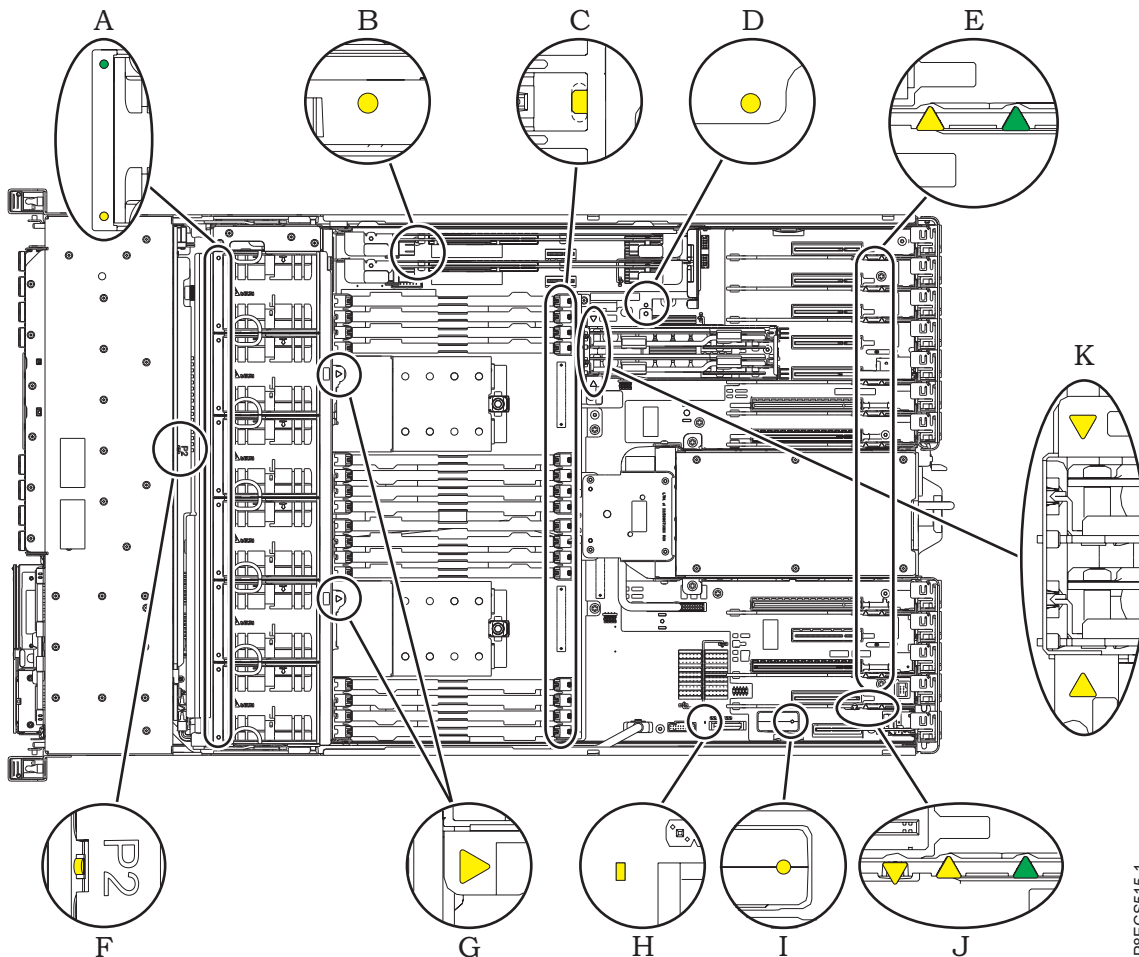

Figure 104. Service indicator LEDs
7. Look for the amber LED (D) of the system backplane. See Figure 104.